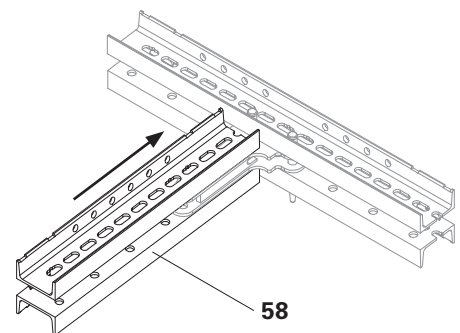

Fig. C2.01e
- Push the Steel Waler SRU U120 L = 0.72 m (58) on the long side of the Corner Connector SRU VARIOKIT (59). (Fig. C2.01e)